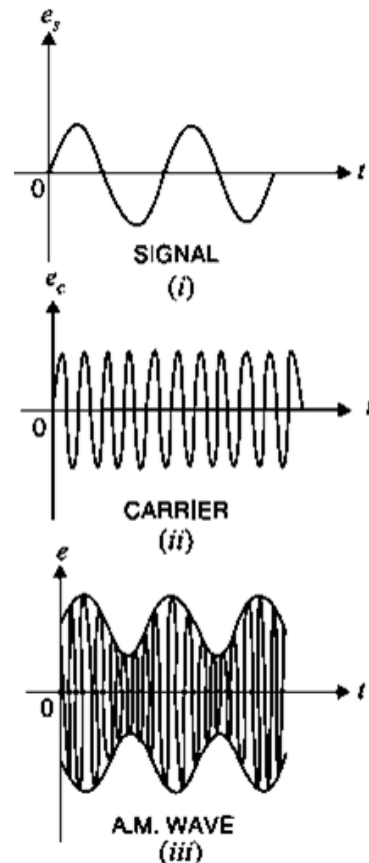

Figure 5-1. Signal, Carrier and Amplitude modulated waves.
In amplitude modulation, only the amplitude of the carrier wave is changed in accordance with the intensity of the signal. However, the frequency of the modulated wave remains the same *i.e.* carrier frequency. Figure 5-1 shows the principle of amplitude modulation. Figure 5-1 (i) shows the audio electrical signal whereas Figure 5-1 (ii) shows a carrier wave of constant amplitude. Figure 5-1(iii) shows the amplitude modulated (AM) wave. Note that the amplitudes of both positive and negative half-cycles of carrier wave are changed in accordance with the signal. For instance, when the signal is increasing in the positive sense, the amplitude of carrier wave also increases. On the other hand, during negative half-cycle of the signal, the amplitude of carrier wave decreases. Amplitude modulation is done by an electronic circuit called *modulator*.